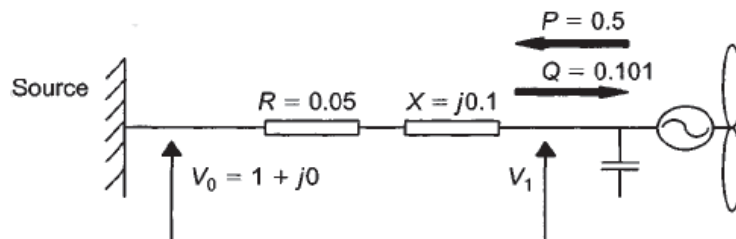

Figure Q4
4- Consider a 5 MW wind farm operating at a leading power factor of 0.98. The single-line diagram of the system is given in Figure Q4. The network voltage (V_0) is 33kV or $(1 + j0)$ per unit and the circuit impedance (Z) is $(0.05 + j0.1)$ per unit on a 10 MVA base.